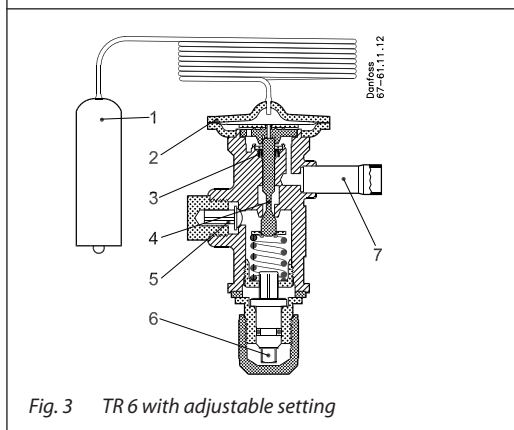

Fig. 3 TR 6 with adjustable setting
Static superheat (SS) can be adjusted with the setting spindle (see fig. 3, pos. 6) . The standard superheat setting is 3.6°F / 2°K.